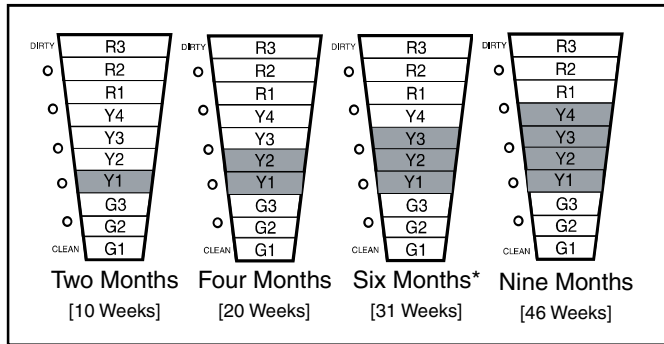

Figure 27 Yellow LED Collection Cells Settings
- The four YELLOW LED's indicate the COLLECTION CELLS cleaning interval. This is measured in actual run time of the indoor fan. The default setting is 6 months [31 weeks]. See Figure 27.
CELL CLEANING SETTING (Figure 27)